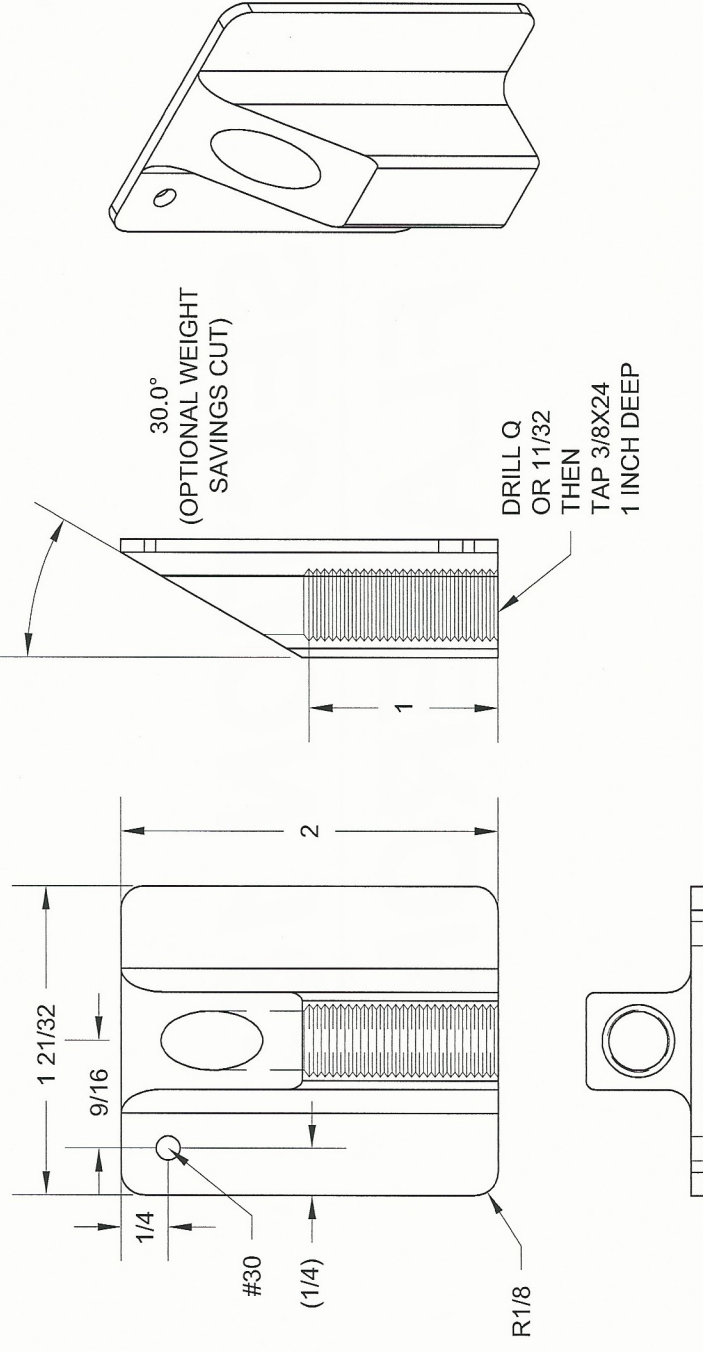

FIGURE 2: A-1206
Step 2: Make four A-1206 Pivot Brackets from AEX Tie Down as shown in Figure 2.